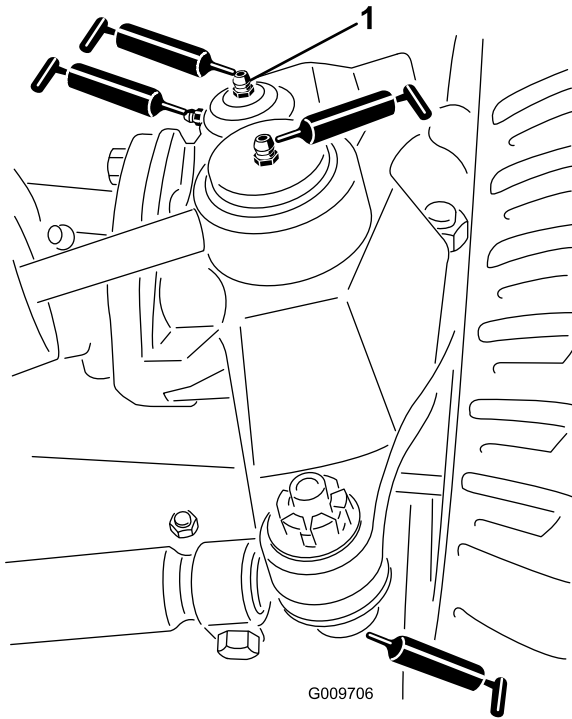

Figure 49
- Steering cylinder ball joints (2) (Figure 49)
- Tie rod ball joints (2) (Figure 49)
- King pin bushings (2) (Figure 49). **The top fitting on the king pin should only be lubricated annually (2 pumps).**